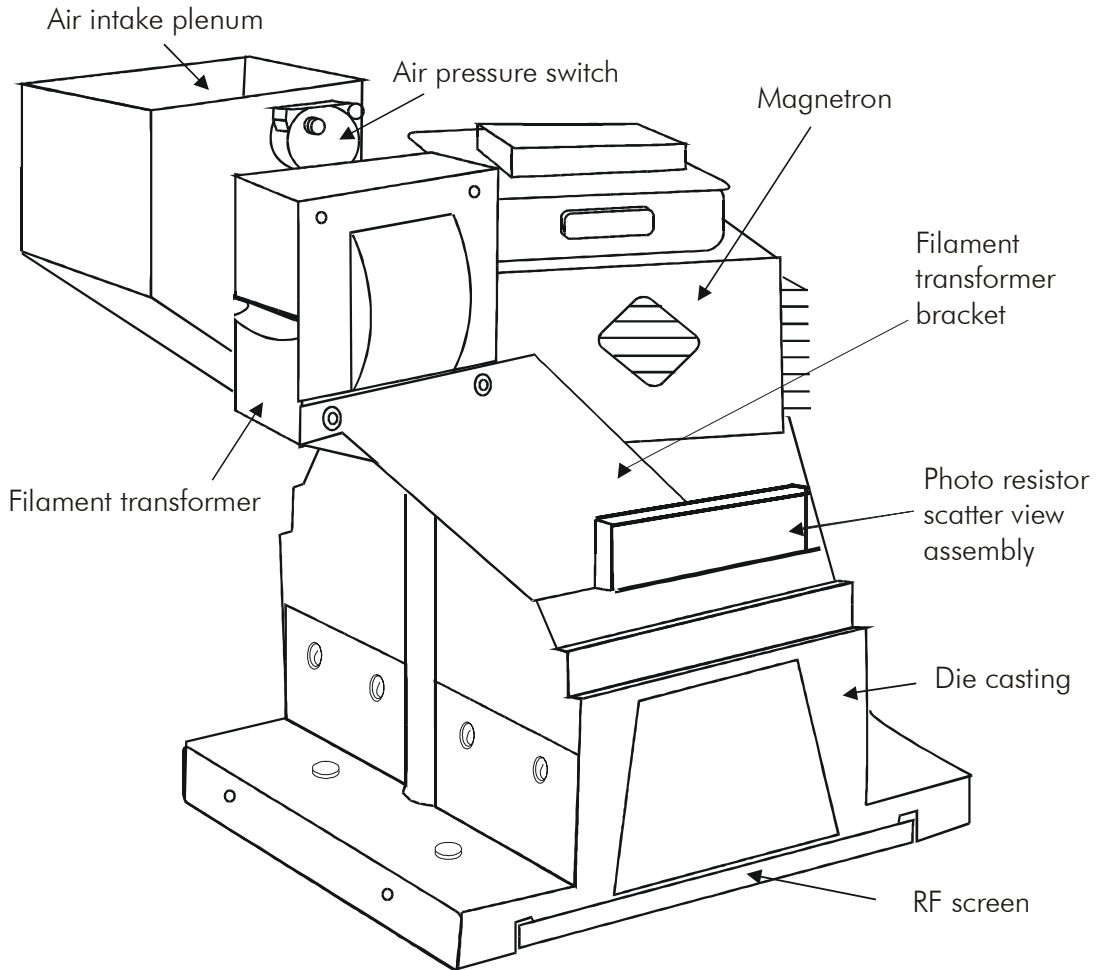

Figure 39. I310M/I311M Irradiator Component Location (Scatter View)
8. Lift the housing straight up to view the interior components of the irradiator, as shown in Figure 39 on page 101.
Figure 39 on page 101 shows the I310M/I311M Irradiator component locations.